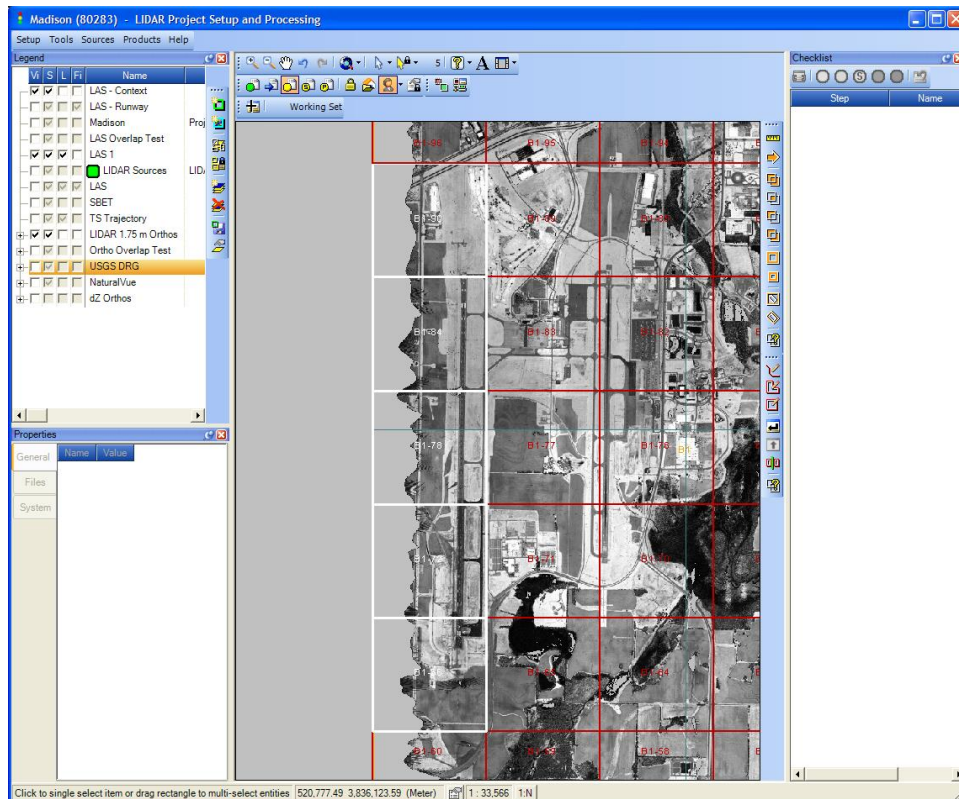

Figure 16-8 Original Segments from LAS-1 surrounding runway
2. *Select* all of the LAS Segments that contain the runway area from the original project layer, LAS-1 (Figure 16-8)